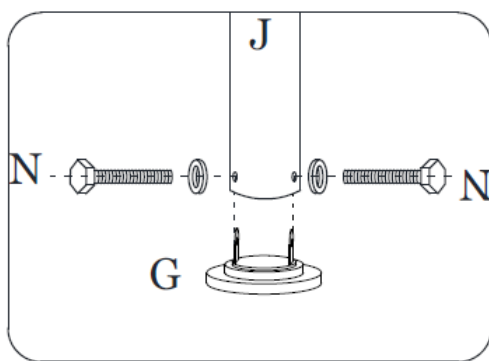

Figure 4
Step 2: Attach the Base Plates (G) to the Corner Post (J) using Bolts and Washers (N). See Figure 4.